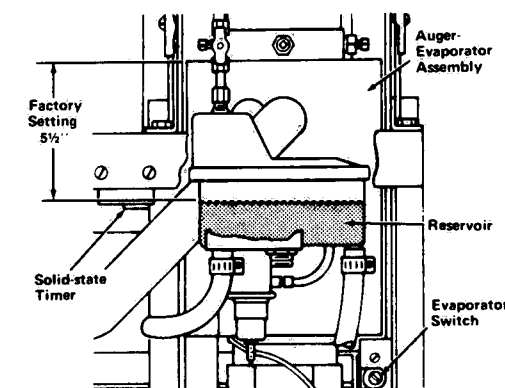

Figure 3-1. ICE FLAKER WATER RESERVOIR.
- b. Check level in water reservoir. Refer to Figure 3-1 for the factory setting. This should not be changed unless difficulties are experienced in making ice, in which case refer to Paragraph 4-7 for assistance.
c. Check the setting of the evaporator thermostat switch (Fig. 3-1). It should be at the mid-point of its total adjustment travel.
e. Check the setting of the solid-state timer; if applicable, it should be at No. 3 (Fig. 3-1). (**NOTE:** Later
### Solid State Timer and Cam (Figs. 3-1, 3-2 and 5-2)
**NOTE:** Refer to item 29, Figure 5-2 for location of adjustable timer on "old" units. Fixed timers on "new" units are on auger assembly bracket (see Figure 3-1).